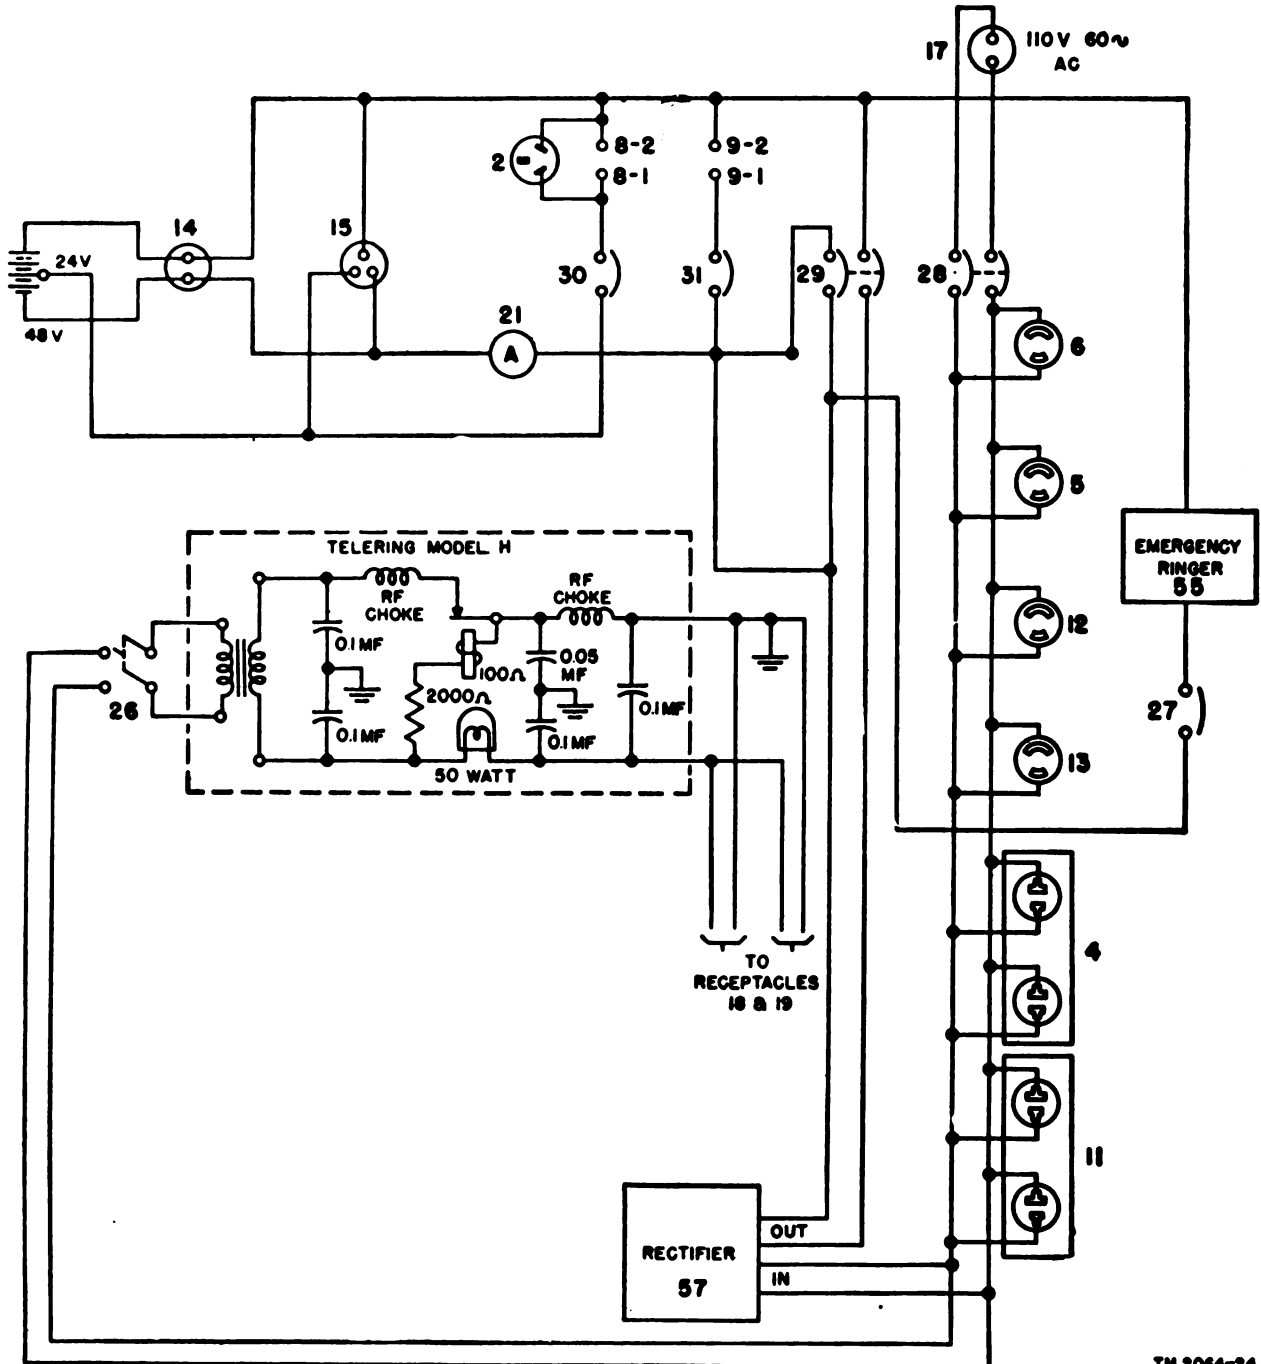

Figure 27. Power and ringing supply circuits, schematic diagram.
38. Ringing Supply (fig. 27)
39. Rectifier Unit RA-91-A (fig. 27)